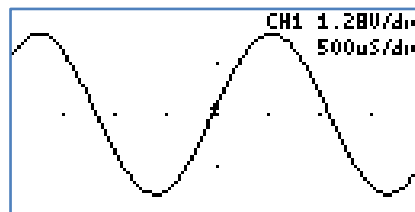

Figure 16: Quick start
- Press and hold the K1 key (auto setup). The screen should look like figure 16.